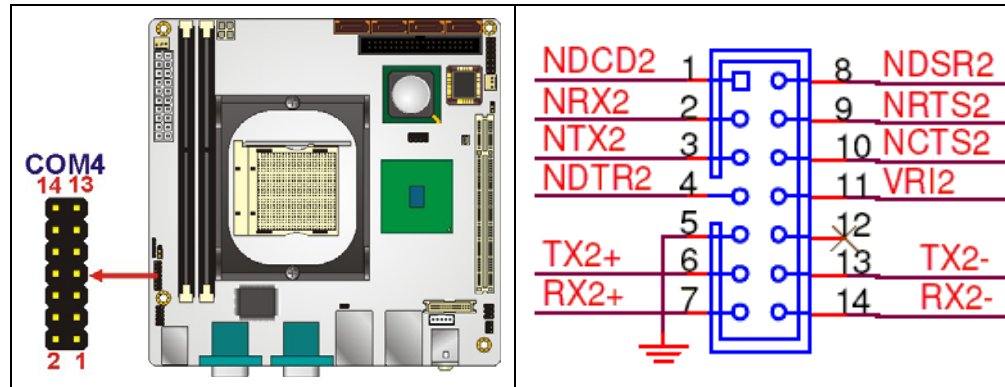

Figure 4-13: RS-232/422/485 Serial Port Connector Location
- CN Location:** See Figure 4-13